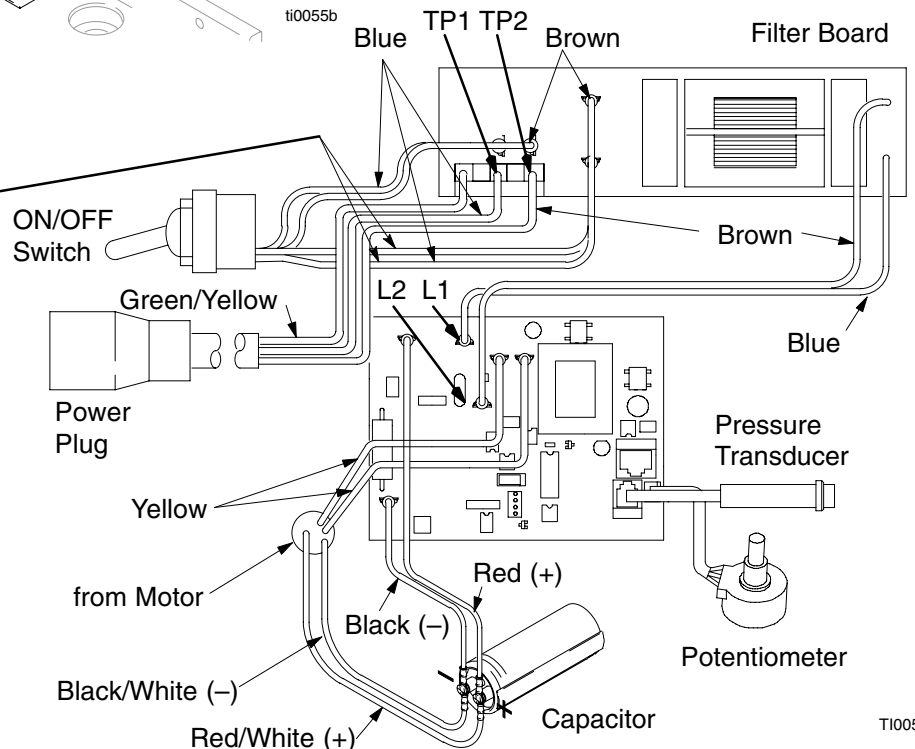

Fig. 8
2. Fig. 8. Remove pressure control cover (39).
3. Disconnect four wires (A) at ON/OFF switch (23).
4. Remove toggle boot (25) and locking ring (24). Remove ON/OFF switch (23).